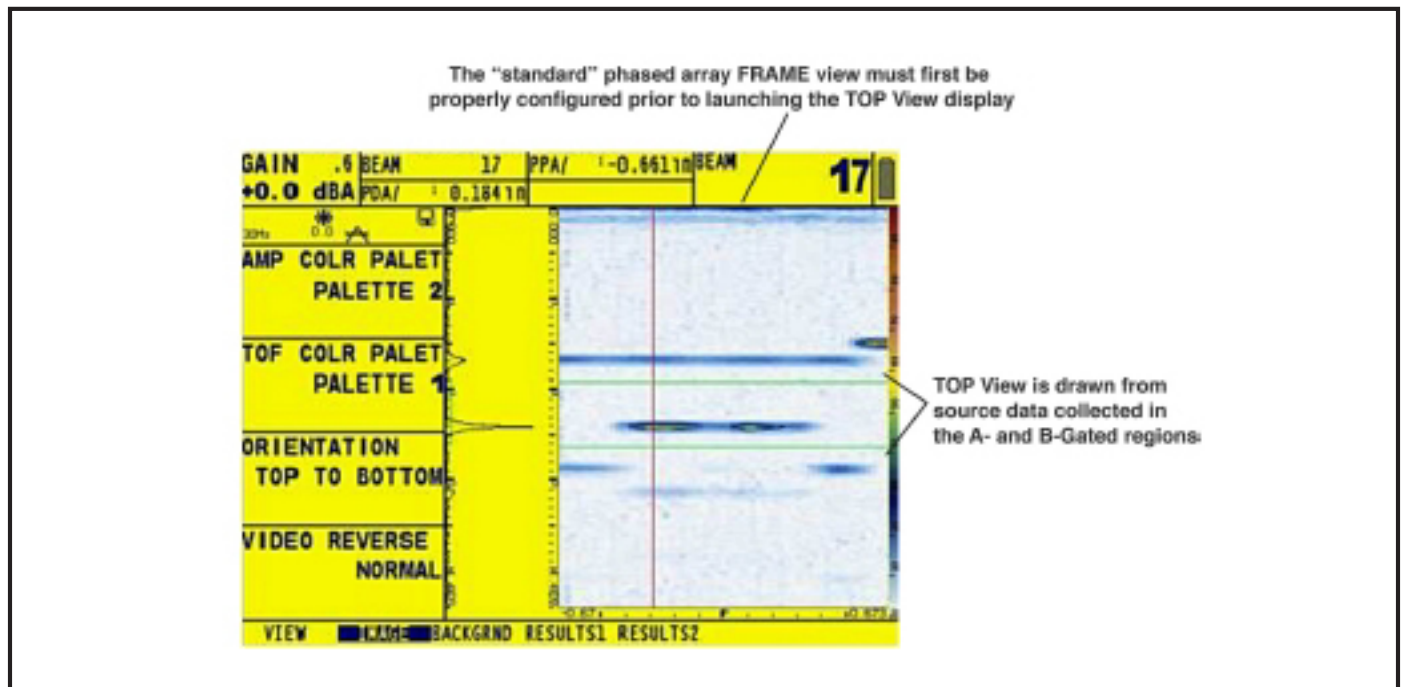

Figure 64: The A- and/or B-Gated regions in a sector or linear scan provide the data sources from which the TOP View display is generated.
3. Adjust the A- and/or B-Gate starting point and width to capture the test-material region of interest (Figure 64 on page 147). Refer to Section 2.8.1 to position gates.
*Note:* While scanning in TIMED mode, TOP View data is first added to the display screen. When the screen is full, the initial data "scrolls" into the instrument's data buffer. Scrolling direction is defined in Step 5. In TIMED CONT Mode, when the buffer is full, acquiring new data automatically causes the oldest data in the buffer to be overwritten. At any time, the TOP View scanning process can be stopped, allowing on-screen and buffered data to be stored in a data set (Figure 64 below).